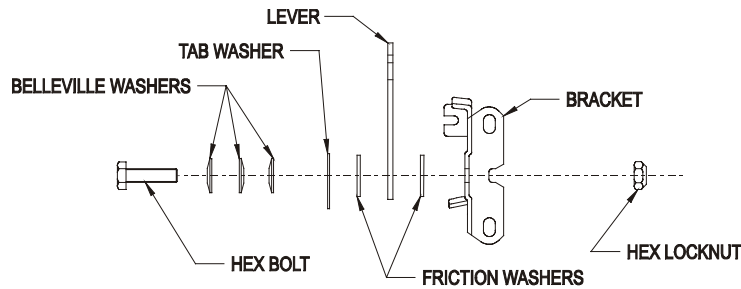

FIG. 15
- b) Tension in throttle lever can be adjusted by adjusting the tightness of the lever pivot bolt, which is located under the console (See Figure 15).